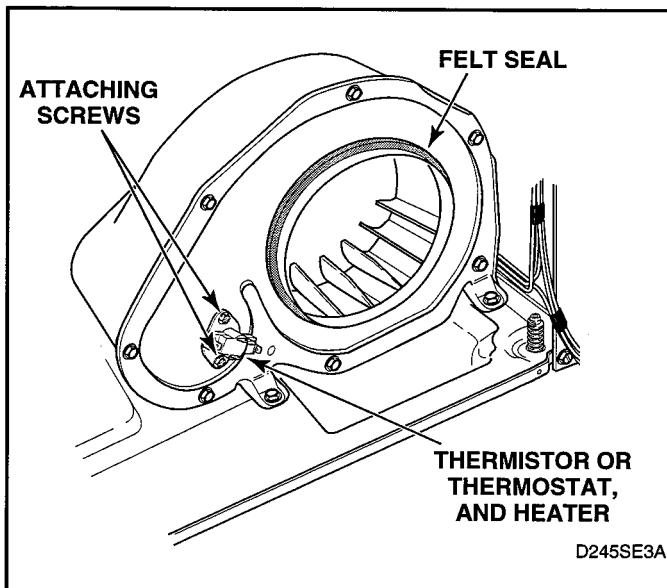

Figure 5-14
- Disconnect wires and remove thermostat attaching screws, thermostat and heater. See figure 5-14.
**IMPORTANT:** When reassembling, be sure felt seal on exhaust fan cover makes airtight seal on flange of duct. See figure 5-14. If the seal is installed improperly, the airflow through the exhaust system will be restricted which can adversely affect dryer performance.